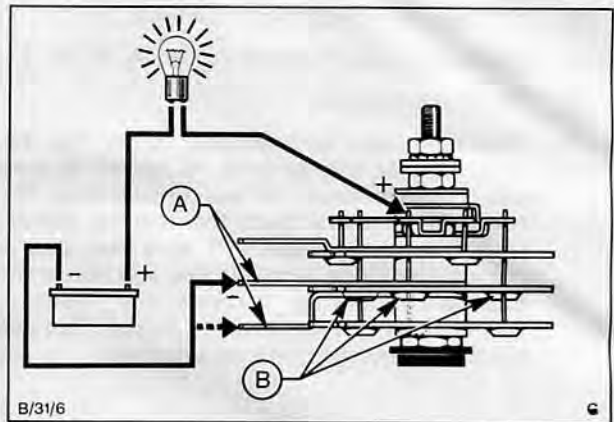

Fig. 44. A – Positive terminals
- (a) Connect negative terminal of test equipment to positive section of diode pack, i.e. centre plate or one of the two large terminals, Fig. 44. Attach positive terminal to stem of one of the three diodes connected to centre plate. If diode is functioning correctly, bulb will light.